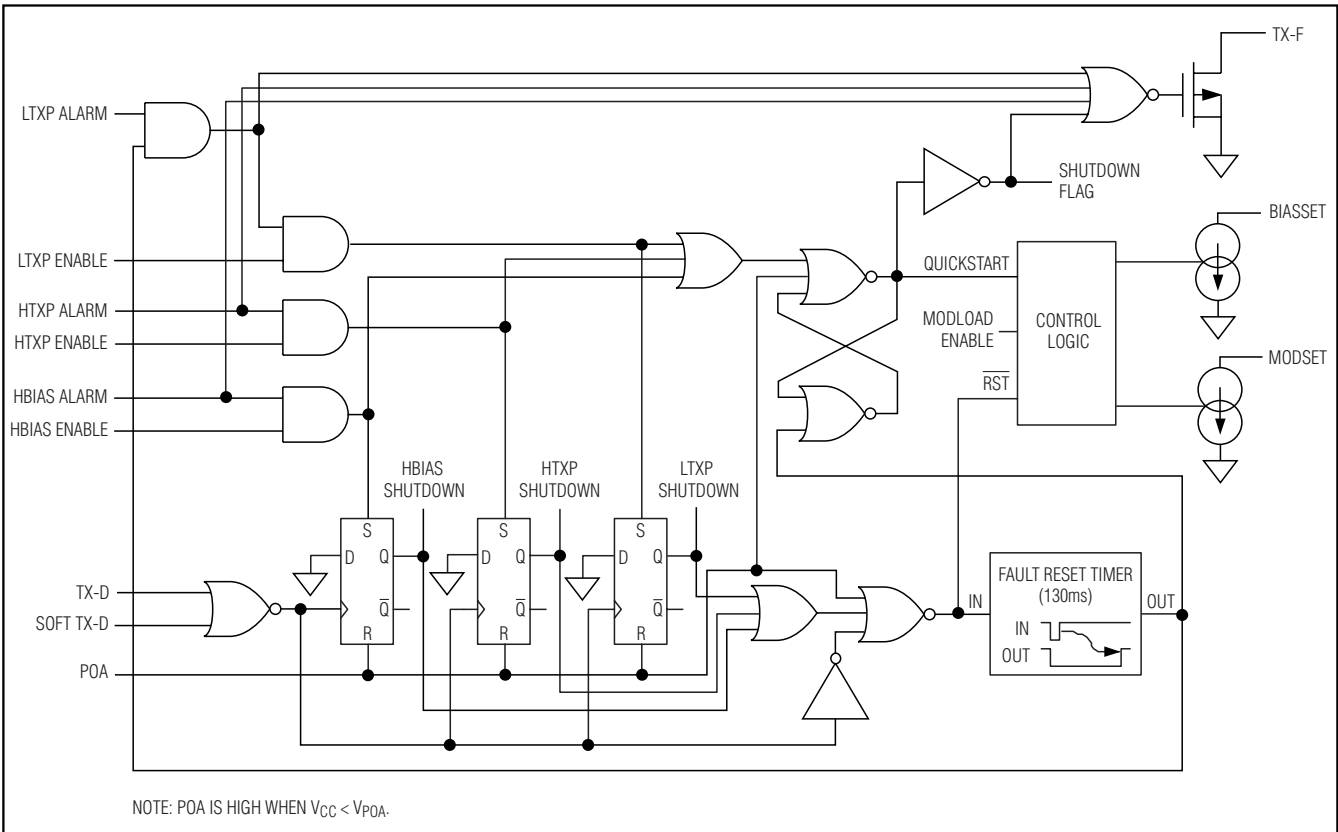

Figure 13. Quick Trip Logic Diagram
The DS1861 has a VCC monitor plus three programmable quick-trip (QT) fault monitors (Figure 13) that can trigger the TX-F output. The QTs monitor for high transmit power (HTXP), low transmit power (LTXP), and for high bias current (HBIAS). All the QTs feature programmable trip levels, an alarm disable, and a shutdown enable to determine if the enabled QT alarm shuts off the IBIASSET and IMODSET outputs.
The high and low transmit power quick-trip thresholds are each programmed by 3 bits that select one of seven different levels as a function of the expected I_{BMD} current. Each QT monitor can be disabled by programming all three bits to zero. Disabling a QT by programming its control bits to zero prevents the QT alarm flags from ever being set, which consequently prevents that monitor from asserting the TX-F output, latching the device into a shutdown condition, or setting the alarm bits in the Status register. The HTXP and LTXP enable bits can be used to prevent the transmit power level QTs from causing shutdown while allowing the TX-F output to be set to flag the system of a transmit power fault condition. Figure 13 shows the shutdown logic. Tables 1 and 2 show the QT thresholds as a function of I_{BMD} current-set point.